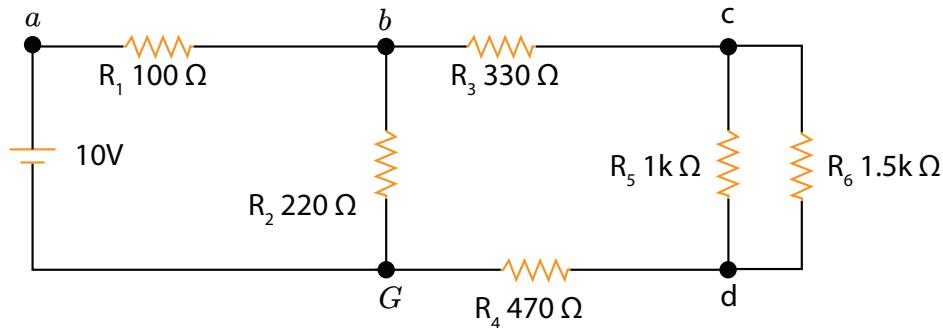

Figure 4.4.1: The resistive circuit for Experiment 4.
1. Construct the circuit of Figure 4.4.1 in your prototyping board.
7. Consider the same circuit as in Figure 4.4.1. Measure I_N as the short-circuit current between terminals c and d where R_6 was connected.